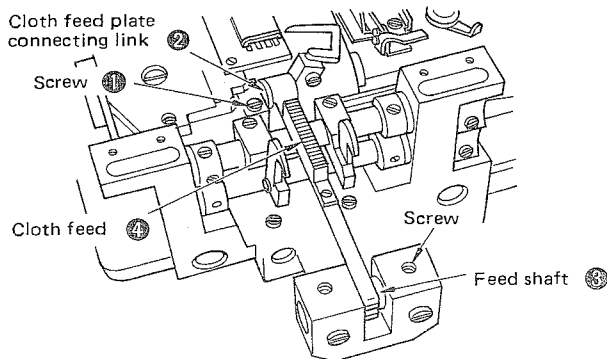

Fig. IV-9-1
The height of the cloth feed should be adjusted so that it protrudes 0.8 to 1.0 mm from the top surface of the cloth feed base. (See Fig. IV-9-1)
Loosen the screw ①, and adjust the lateral position of the cloth feed by moving cloth feed plate connecting link ② and feed shaft ③ to the left or right. (See Fig. IV-9-1)